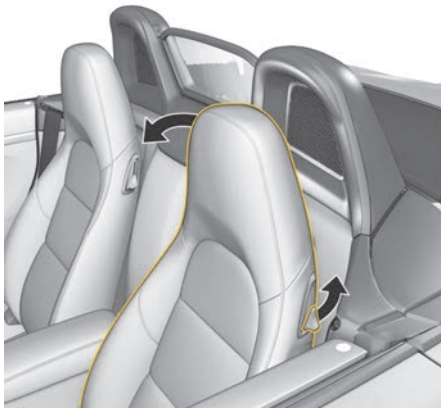

Fig. 188: Folding down backrest
- ▶ Pull up lever in the side part of the backrest (Fig. 188) and fold the backrest forward.